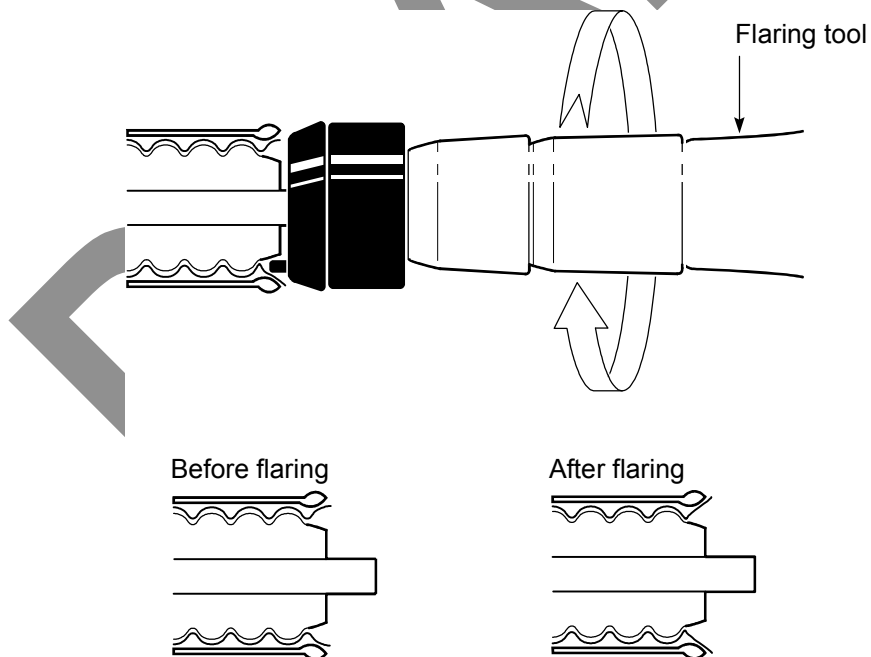

Figure 79 – Flaring the outer conductor
1. Use a flaring tool to flare the outer conductor, as shown in *Figure 79*.